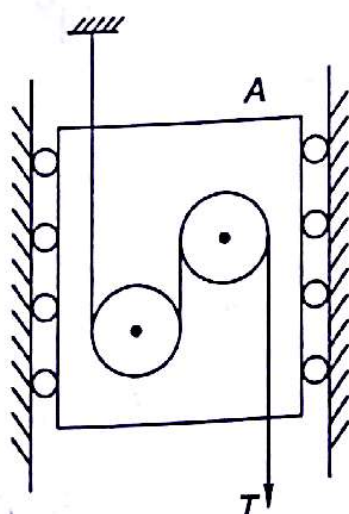

Fig. 14.22
- 14.2 The acceleration of a 40 kg carriage A is controlled by tension T exerted in control cable that passes around two circular pegs fixed to the carriage. Determine the value of T required to shunt the downward acceleration of carriage to 2 m/s^2 , as shown in Fig. 14.22. The coefficient of friction between control cable and peg is 0.20 .